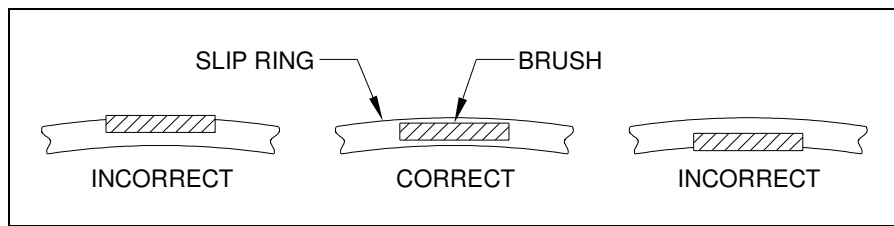

Figure 5-6
- d) Check radial alignment of the brushes. Make sure that the brushes are aligned so that the entire face of each brush contacts the copper ring throughout full 360 degrees of slip ring rotation. Refer to Figure 5-6.